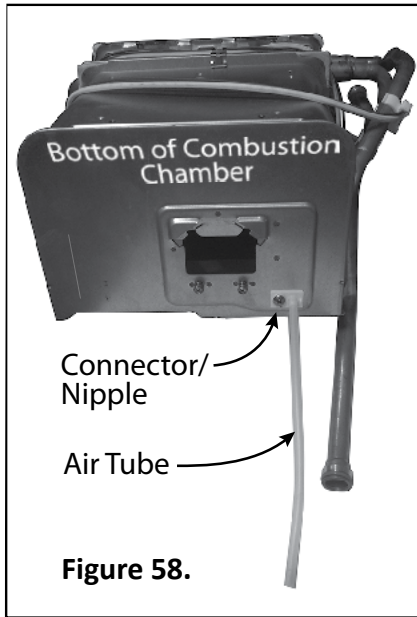

Figure 58.
10.1 Remove the clear air tube from the bottom of the combustion chamber (Figure 58).
- Air tube and its connector/nipple on the bottom of the combustion chamber. (See Figure 58, p. 63.)